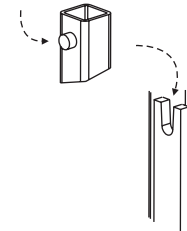

Figure 4-34
17. Attach platform by placing platform's upright pins into u-shaped bracket on tower. *See Figure 4-34.*
See Figure 4-34.